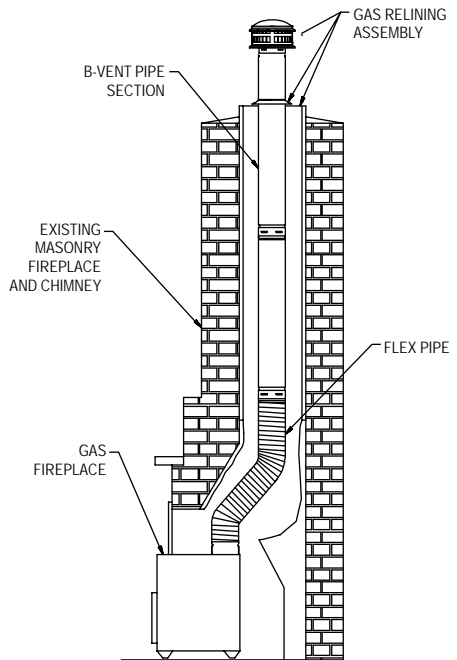
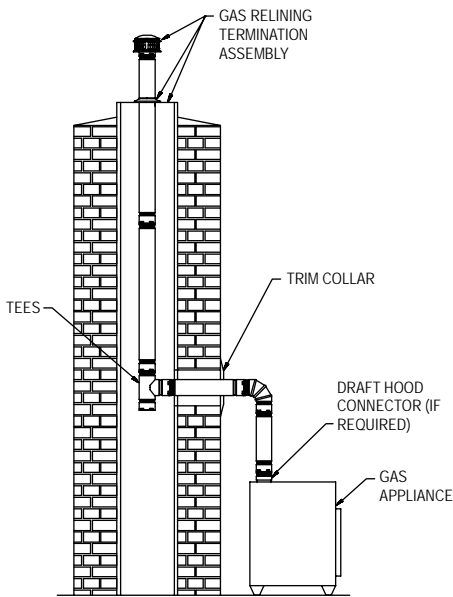

Figure 24
Figure 30
1. Description. A masonry chimney should be relined with B-Vent when venting a Category I gas appliance, such as a gas fireplace insert or freestanding gas stove, or to improve the venting and reduce condensation of existing gas appliances which are currently venting into the masonry chimney. These instructions encompass two general configurations: (1) A gas fireplace situated inside an existing masonry fireplace (*Figure 24*) or (2), a freestanding gas appliance venting into an existing masonry chimney. (*Figure 30*)
in its desired position, and mark the center of the hole where the lateral Pipe Section is to pierce the masonry chimney. Insure the manufacturer's requirements are complied with, particularly in regards to distances from combustible surfaces. Refer to **Figure 30.**
(c). **Tee.** A Tee is installed at the bottom end of the assembled vertical Pipe Sections, as shown in **Figure 30.** The Tee has a removable Tee Cap at the bottom, for cleaning and condensate removal. If the configuration of the building permits it, a clean-out access gate is recommended.
(h). Horizontal Pipe Section(s). Run the horizontal Pipe Section(s) through the hole in the masonry, and connect it firmly to the Tee, either by reaching through the hole, and holding the Tee while twisting the Pipe Section, or by holding the Tee through the access door while someone twist-locks the Pipe Section to it. Use an Adjustable Pipe Length as needed to obtain a specific location for the appliance. Make a mark on the horizontal Pipe Section flush with the vertical face of the masonry, for referencing the vertical position. Slip a Pipe Collar over the horizontal Pipe Section and install the remaining fittings as shown in Figure 30. A minimum of 12 inches of connector rise is required.